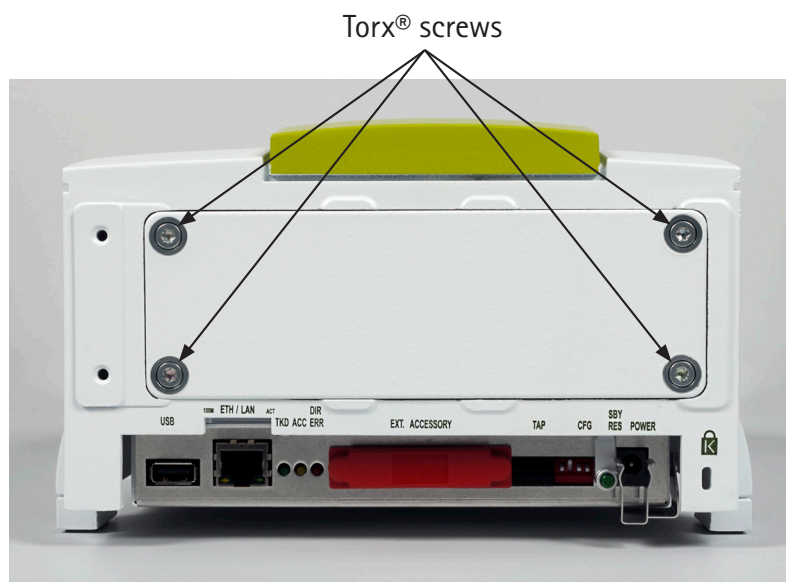

Figure 21. Removing the cover plate
4. Loosen the two mounting screws on the IR source (Figure 21) with the Torx® screw driver.
5. Disconnect the green source plug (Figure 21).